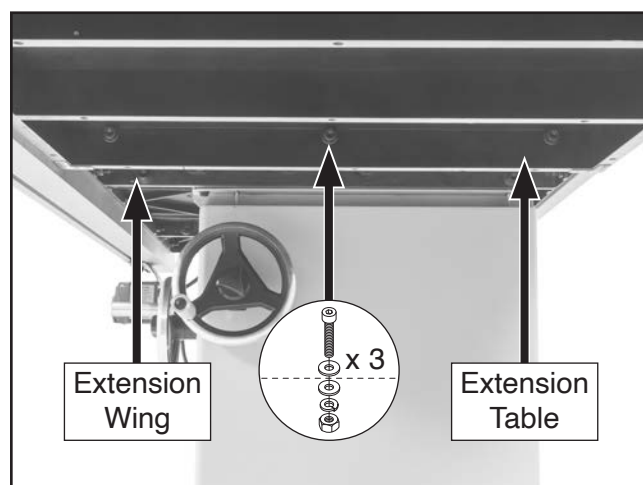

Figure 28. Front of extension table aligned with hex bolts.
14. Secure extension table to right extension wing with (3) M10-1.5 x 50 cap screws, (6) 10mm flat washers, (3) 10mm lock washers, and (3) M10-1.5 hex nuts (see **Figure 28**). Hand-tighten fasteners for now.